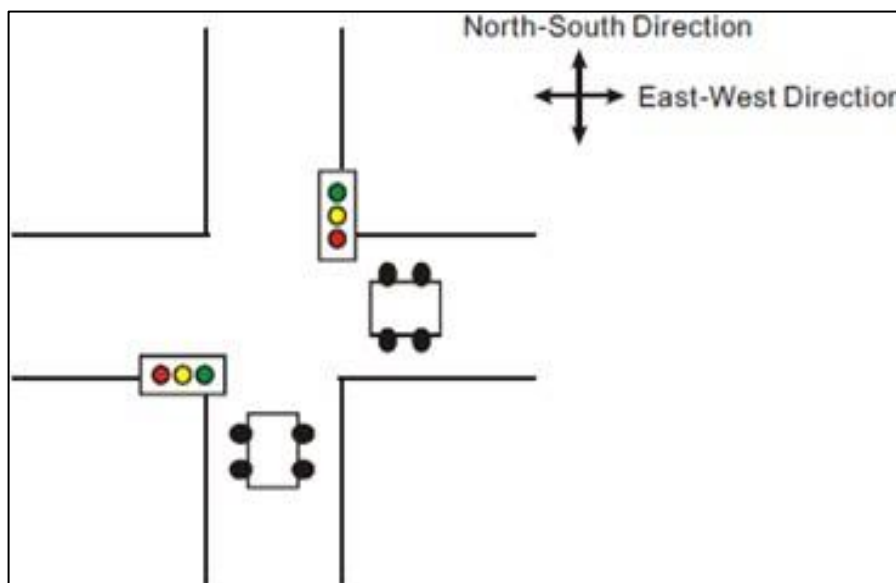

Fig.22 Traffic signal control system for a three-way junction road
1. Design a traffic signal control system for a three-way junction road for fig.22 using ladder diagram in terms of concepts.